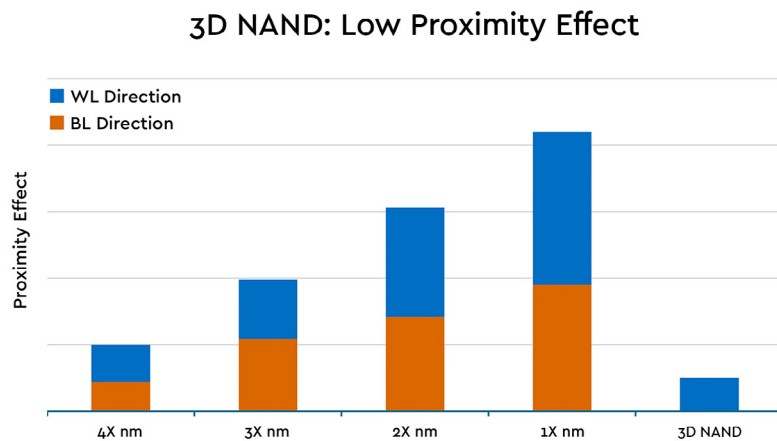

Figure 5: Proximity Effect in 3D NAND
When the process technology scales, the 2D NAND proximity effect increases due to a narrow floating gate to floating gate (FG-FG) space. However, in 3D NAND, each memory cell can reduce the proximity effect because of Bit Line (BL) shielding. Figure 5 shows the proximity effect in BiCS with respective contributions of Bit Line and Word Line descriptions to the overall effect: